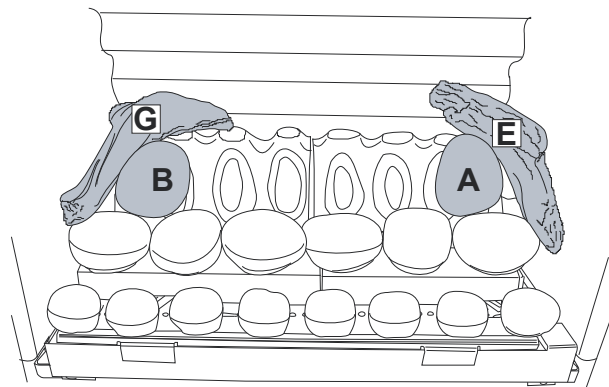

Figure 38
5. Place the **G** and **E** driftwood pieces as shown in **Figure 38** then place the **B** and **A** pebbles (**G** driftwood is not marked).